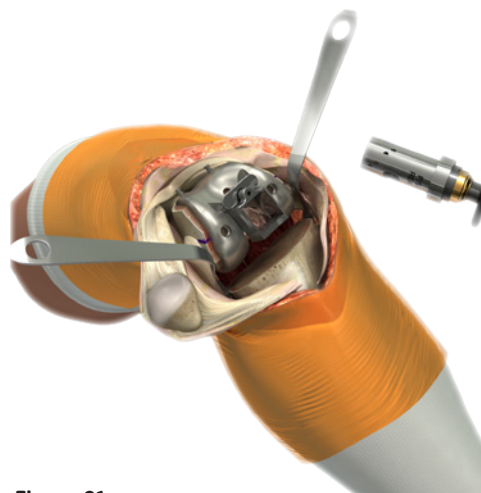

Figure 21
- 4a. Then slide the appropriate sized Collet Guide into the housing from anterior to posterior (Figure 21).